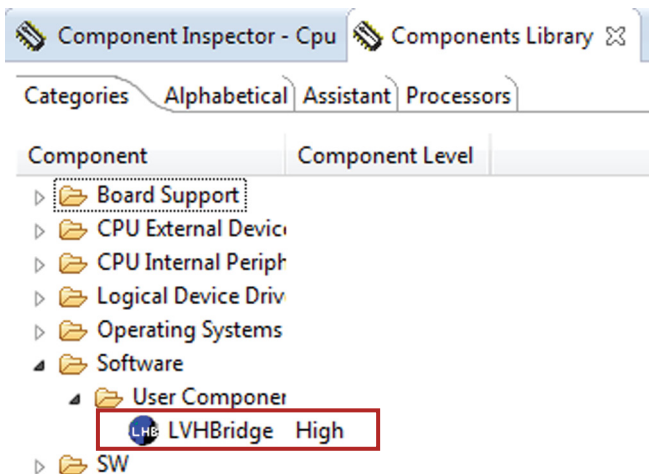

Figure 7. LVHBridge component location after CodeWarrior import
3. If the import is successful, the LVHBridge component appears in Components Library -> SW -> User Component (see Figure 7). Note that the component **ChannelAllocator** is not visible, because it is not designed to be users accessible.